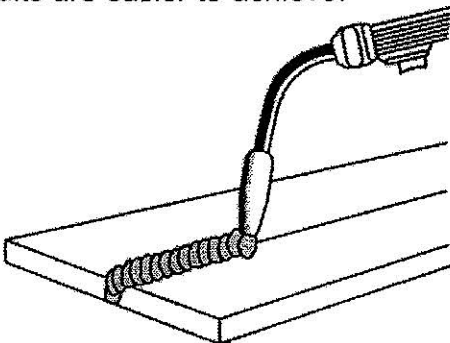

Figure 14. Flat Position
1. The **FLAT POSITION** (Figure 14) is the easiest of the welding positions and is most commonly used. It is best if you can weld in the flat position if at all possible as good results are easier to achieve.